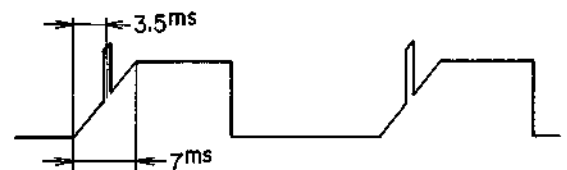

Fig. 8
- (6) Connect Oscilloscope to Test Point TP-6. Confirm that the Speed Control Sampling Pulse is about 3.5 ms away from the rise-up point of the Trapezoid Wave Ramp Slope. (See Fig. 8)